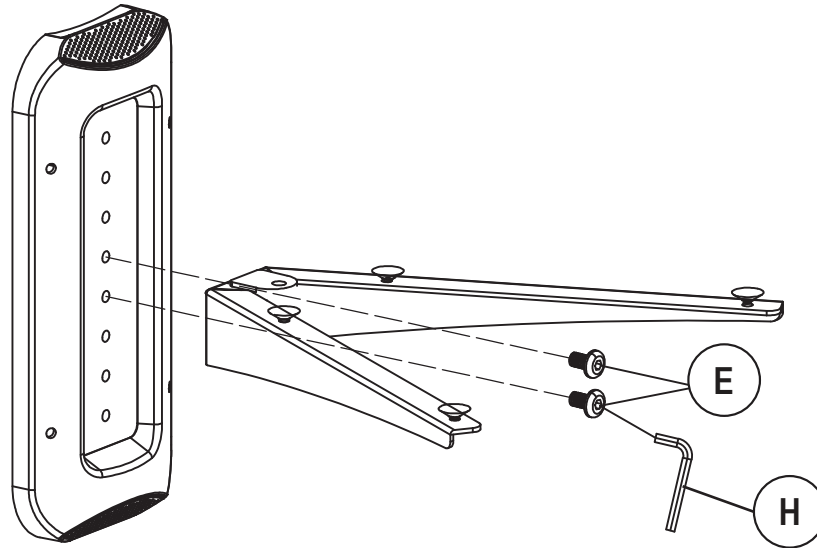

Fig. 7
Attach the **Shelf Support (3)** to the **Wall Plate (1)** using the two **M6x8mm Bolts (E)** and **Allen Wrench (H)** as shown in Fig. 7. Do not overtighten the bolts.